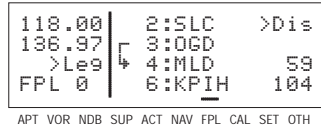

Figure 4-125
- If the flight plan contains more waypoints than can be displayed on the screen at one time, the page will automatically scroll as progress is made along the flight plan so that the active leg is always displayed (figure 4-125).